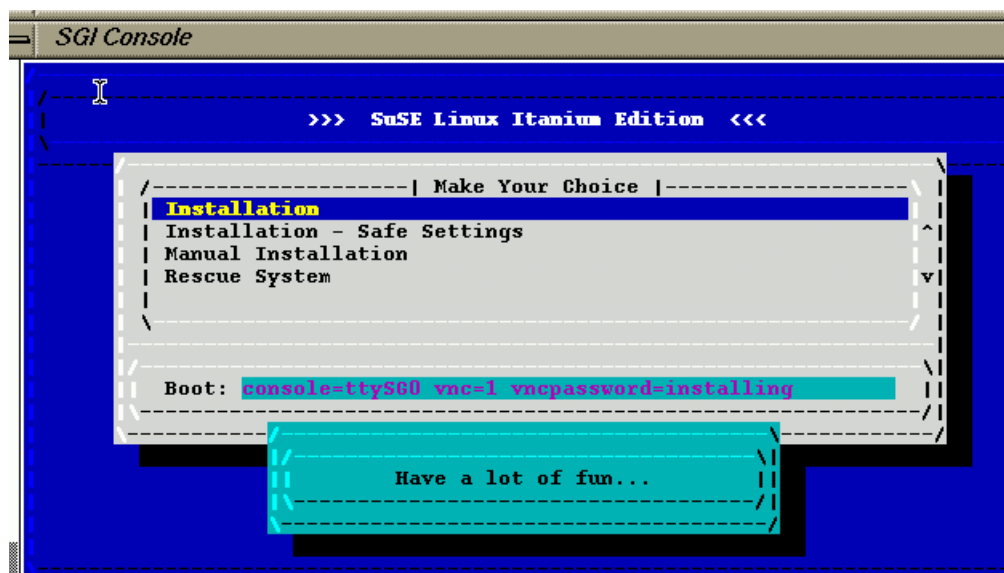

Figure 2-2 Boot Screen
4. From the boot screen, select **Installation** and add the appropriate **Boot Options** to start the installation, as shown in Figure 2-2.